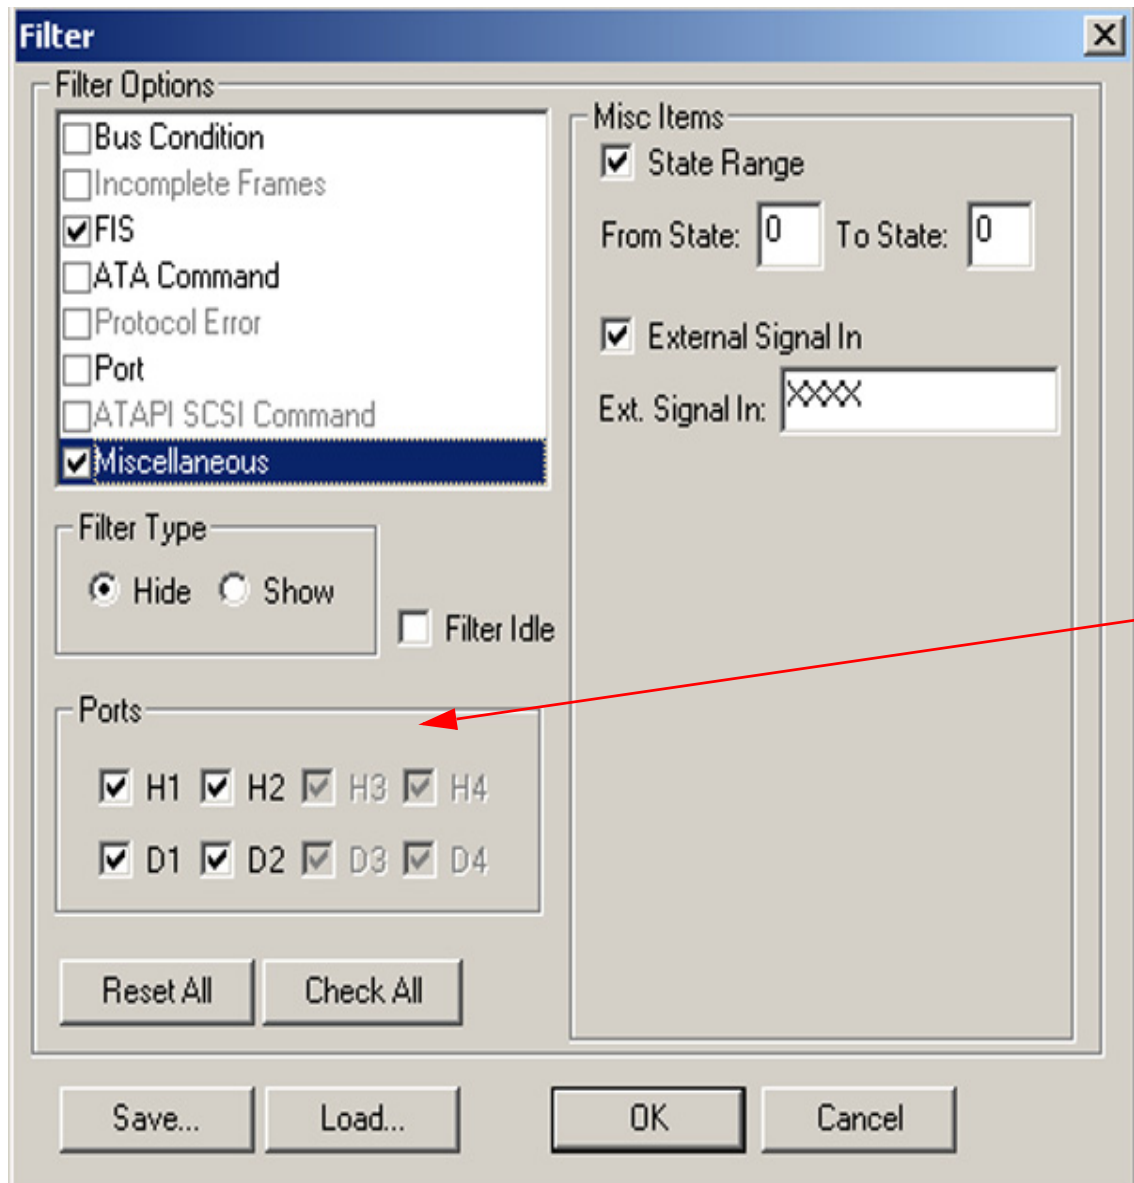

Figure 3.86: Filter State and/or Device Sleep
- ☐ Filter Idle (see Figure 3.86 on page 167)